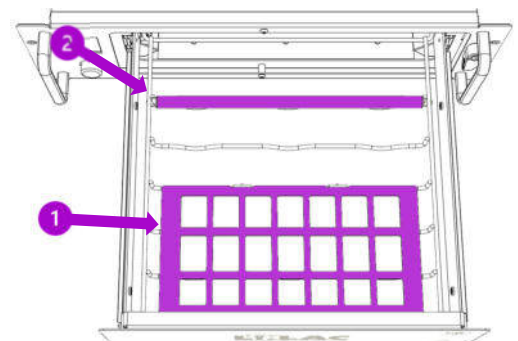

Fig. 4
- Put the cable tray onto the metal grille. (Fig. 4, 1). The cable tray is fixed magnetically.
- Insert the spiral spring in the area of the first cross bar (Fig. 4, 2).